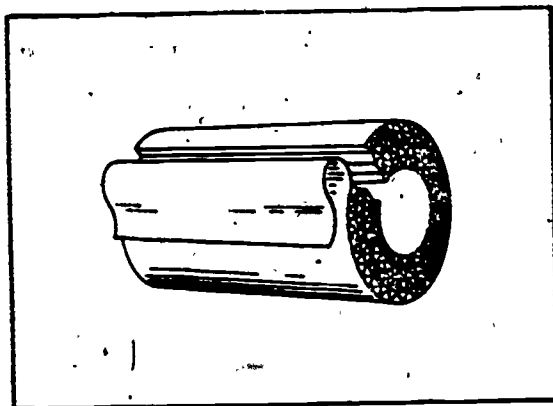

Figure 4-1. Air cell insulation.
a. **Air cell.** Air cell pipe covering is made of fine quality asbestos paper. The covering is generally used to cover low-pressure steam and vapor lines. Air cell insulation is formed by layers of plain asbestos felt that is alternated with corrugated asbestos felt, with each lamination or ply approximately 1/4 inch thick. Air cell insulation is furnished in 3-foot lengths, unless otherwise specified, and is covered with a canvas jacket, as shown in figure 4-1.